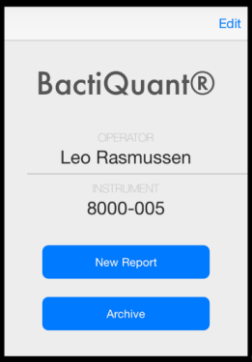

Figure 22 - Spreadsheet and App to calculate BQ values from samples
The sample values are entered into a spreadsheet or into a BQ App, and a BactiQuant (BQ) value is calculated. See Figure 22.